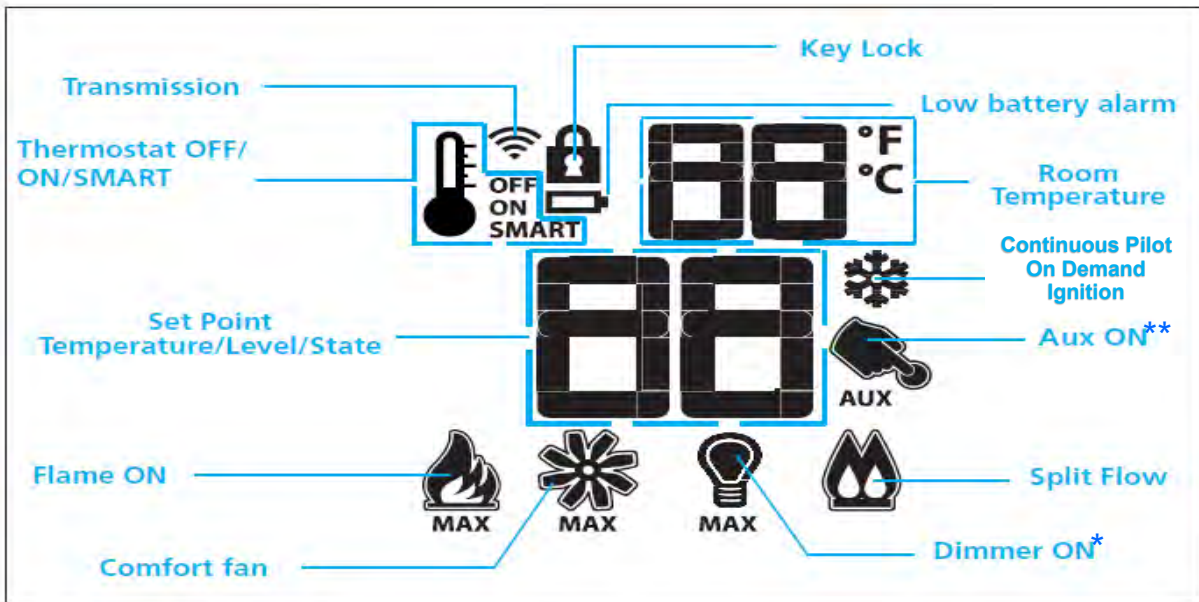

Fig. 2: Transmitter LCD display.
2. Locate the Hinges on the Lower Louver. (Fig. 2)